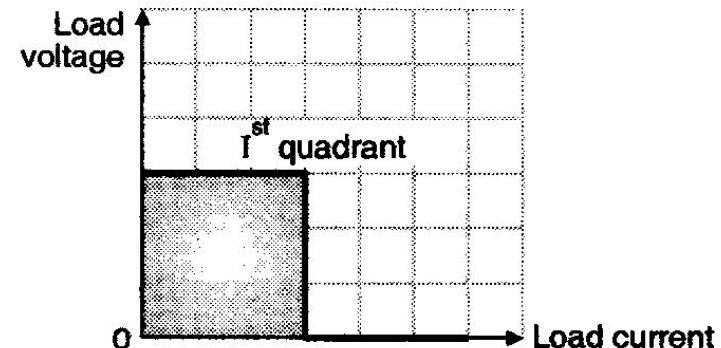

Fig. 2.5 : Quadrant of operation for full converter with resistive load
- The full converter with resistive load operates only in the first quadrant as shown in Fig. 2.5.